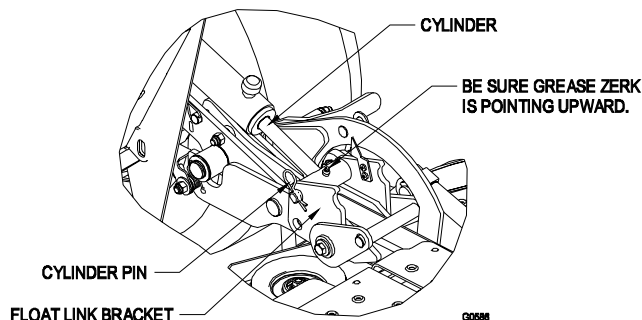

FIGURE 3
- 3.1.9 Align the cylinder rod end to the top hole of the float link bracket and insert pin as shown in Figure 3. Insert cotter hairpin to lock cylinder pin into place.